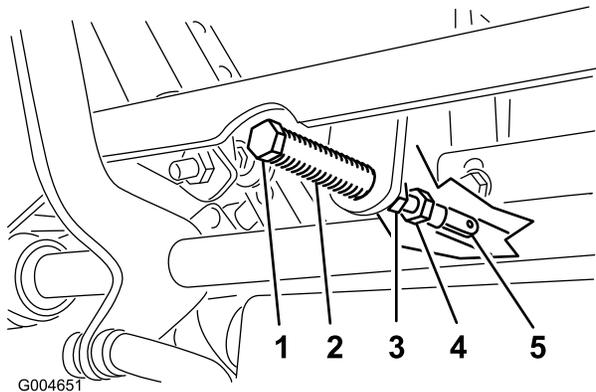

Figure 56
5. Pull the lever back until the clevis pin (on an arm above the pivot shaft) contacts the end of the slot (just beginning to put pressure on the spring) (Figure 56).
7. If adjustment is needed, loosen the nut and jam nut against the yoke (Figure 56).